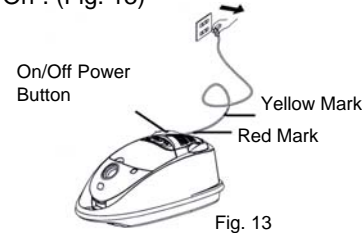

Fig. 13
2. Press the Power On/Off button located on the unit to turn the vacuum cleaner "On". (Fig. 13)
Note: Once all attachments are in place, unwind a sufficient length of cable and insert the plug into the wall outlet. A yellow mark on the power cord shows the ideal cable length. Don't pull the power cord beyond the red mark. (Fig. 13)
Your vacuum cleaner includes a power cord which is automatically retractable. To extend your power cord, pull from rear and extend to desired length up to the yellow mark on the power cord. (Fig. 13) Do not pull the power cord beyond the red mark. When vacuuming is finished, first switch off power and disconnect plug from electrical outlet. Then press on cord rewind button. If the cord does not fully retract, pull it out again and then press on cord rewind button.